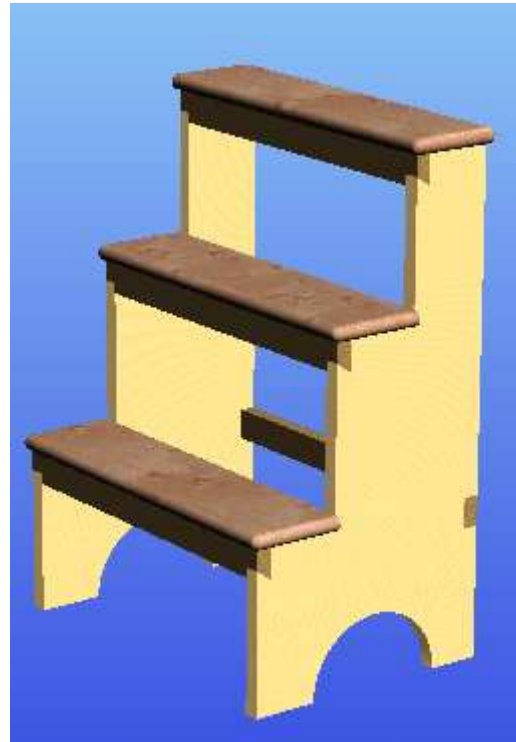

Figure 33. Graduated background.
69. Click the up-date button and notice that the background now starts at a light blue at the top and gradually changes to dark blue at the bottom as shown in figure 33.